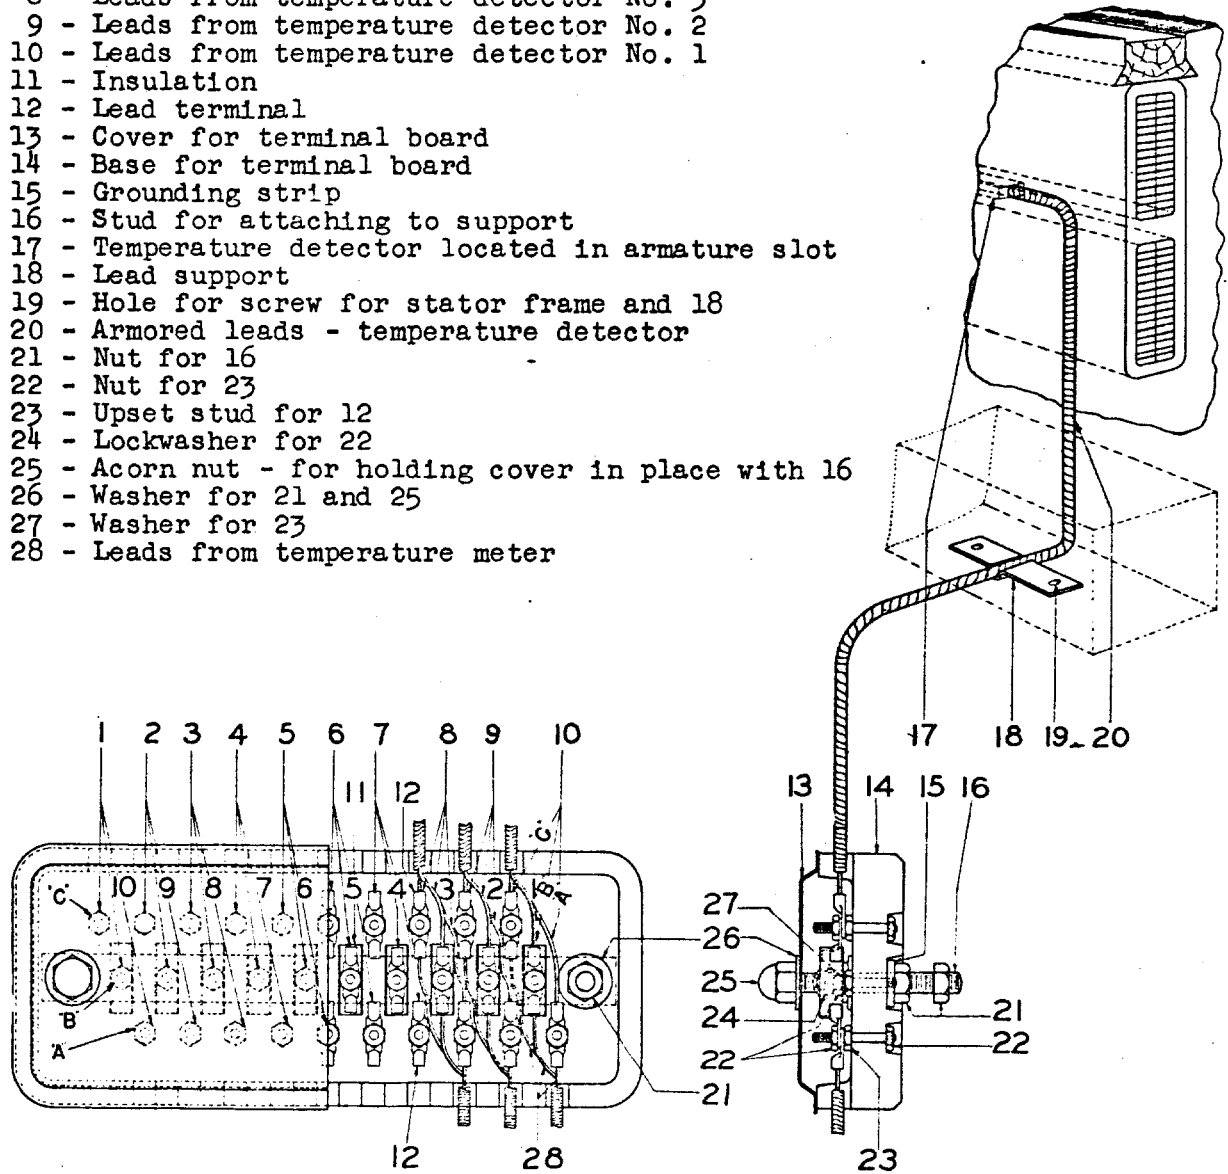

Fig. 1. Terminal Board for Resistance Temperature Detectors
The terminal board, Fig. 1, consists essentially of a moulded base (14) with cover (13), in which are arranged the connections (1-7) for joining together the leads from the temperature detectors and temperature meter. The center (b) row of connections is connected with the grounding strip (15). Part (16) serves as a ground connection and also as a stud for attaching the terminal board to its grounded support on the stator frame.